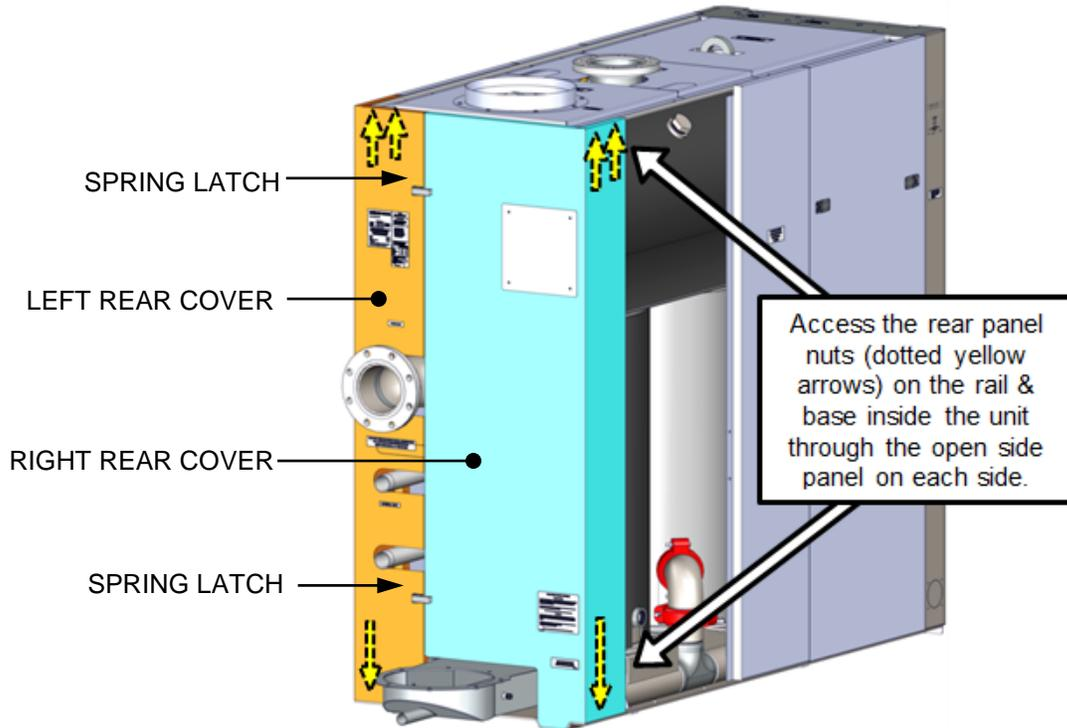

Figure 7-6: Rear View Showing Rear Panel Nut & Latch Locations
At the top, the left-rear and right-rear covers are affixed to the left and right top rails by nuts. At the bottom, each rear cover is affixed to the base with one nut each. Access the nuts for removal through the side panel, as shown in Figure 7-6.
3. Remove the left-rear panel, which is held in place by 2 spring latches and 7/16" bolts, inside the panel on the top rail and bottom lip. See Figure 7-6.